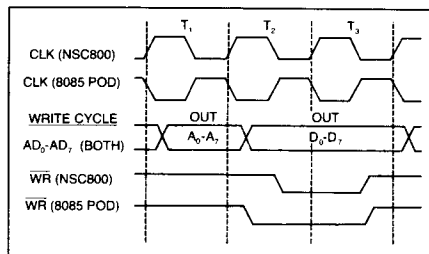
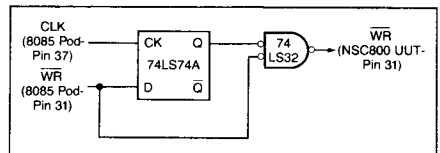

Figure 1. Timing differences between NSC800 and 8085 signals.
Figure 2. Circuit for adapting the 8085 Pod WR Signal to an NSC800 UUT.
The circuitry required for an adapter will depend on the requirements of the particular UUT involved. For example, if the NSC800 UUT does not use a certain signal line, the circuitry used to adapt that line to the 8085 pod will not be necessary. As you read through the example, you should refer to the timing diagram of Figure 1. Refer also to the schematic diagrams of Figures 2, 3, and 4.
Both μP s generate a single-phase clock output signal. A quick comparison of the clock signals for the pod (shown in Figure 1) and the NSC800 shows that the 8085 pod CLK output signal must be inverted for use on the NSC800 UUT. This will allow the 8085 pod bus signals to be synchronized with those on the UUT. If the CLK signal is not used on the UUT, no inverter is necessary.
Read (RD) and Write (WR) Control Signals. The RD control signal of the NSC800 is nearly identical to that of the 8085 pod. However, Figure 1 shows that the WR control signals are different. The WR pulse of the NSC800 begins one-half clock period (T-state) later than the WR pulse of the 8085 pod. The trailing edge of
The WR pulse of the 8085 pod can be adjusted to begin at almost the same point as the WR pulse of the NSC800. Note from the NSC800 timing diagram that the NSC800 WR pulse has a duration of about one T-state. Thus a rising-edge-triggered D flip-flop can be used to delay the start of the 8085 pod WR pulse by one-half T-state. The CLK output of the 8085 pod is used to clock the flip-flop. The circuit necessary for this function is shown in Figure 2.
Note that connecting the flip-flop between the 8085 pod and the NSC800 UUT defeats the pod's ability to check for drivability errors on the WR control line. For this reason, the circuitry of Figure 2 should be used only if the UUT requires it.